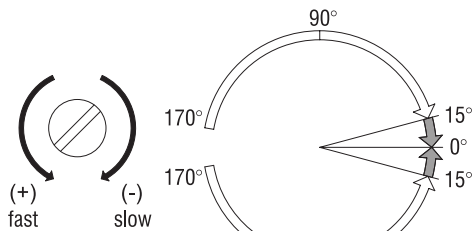

Figure 20
12. Turn valve to the right to decrease closing speed or turn to left and increase closing speed (Figure 20).
- Valve Number 1: Control closing range 170 degrees to 15 degrees (Figure 20).
- Valve Number 2: Control closing range 15 degree to zero degree (Figure 20).